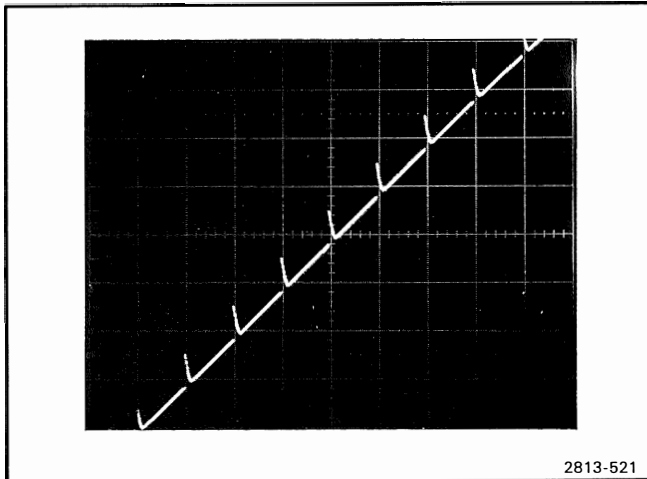

Figure 5-6. Display of Sweep Out versus 1 ms time marks.
b. Use the 5223 Vert and Horiz Posn controls to align the second time mark with a vertical graticule line. See Figure 5-6.
c. **CHECK**—that the 7th time mark aligns with the 7th horizontal graticule line, $\pm 6\%$ (0.42 division). Figure 5-6 shows the desired display.